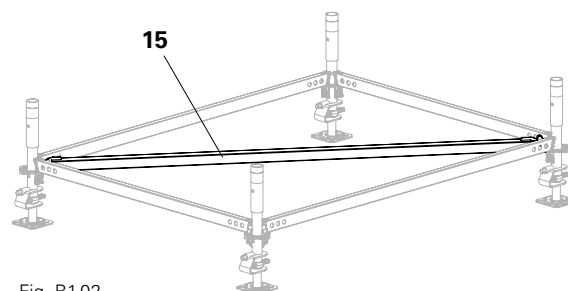

Fig. B1.02
2. Align the frame with the H-brace (**15**) at right angles. (Fig. B1.02)